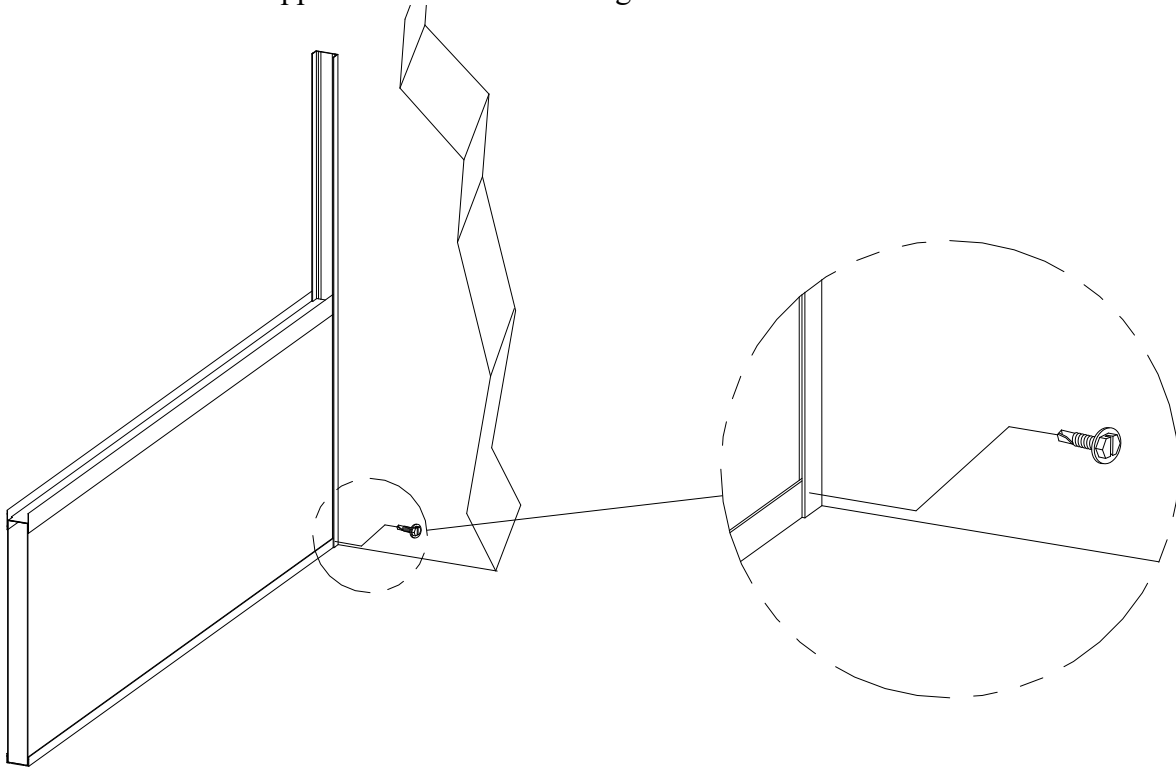

Figure 14
7. While applying downward pressure to the filler panels secure all of the “A” channels to the “B” channels with the supplied TEK screws. See figure 14.